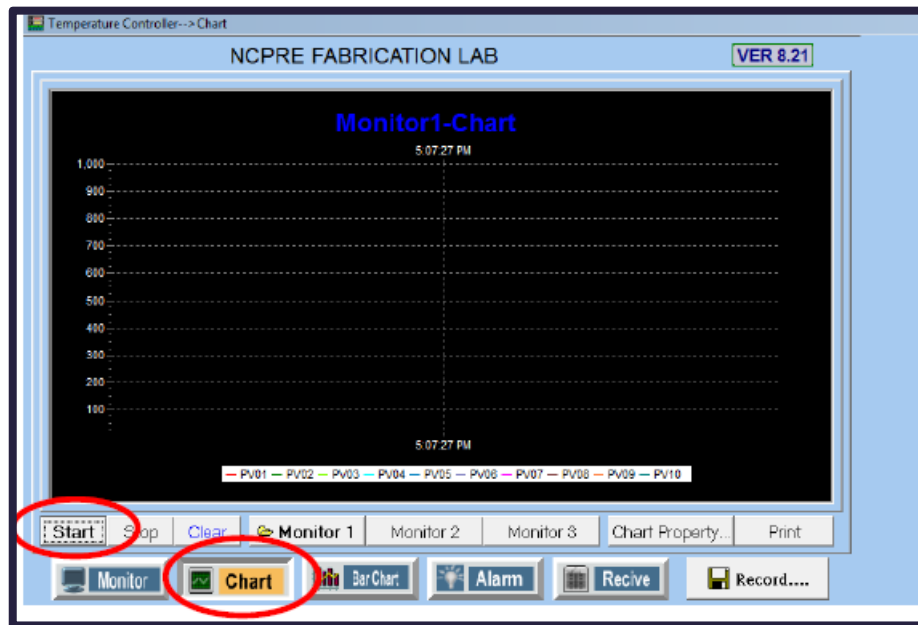

Figure. 26
17. Click on “OK” in both the windows and on “Start” in the main window of the “Chart” tab and then the recording of the temperature data will start. Time starts appearing in “Monitor 1-Chart” window along with temperature (Figure. 26).